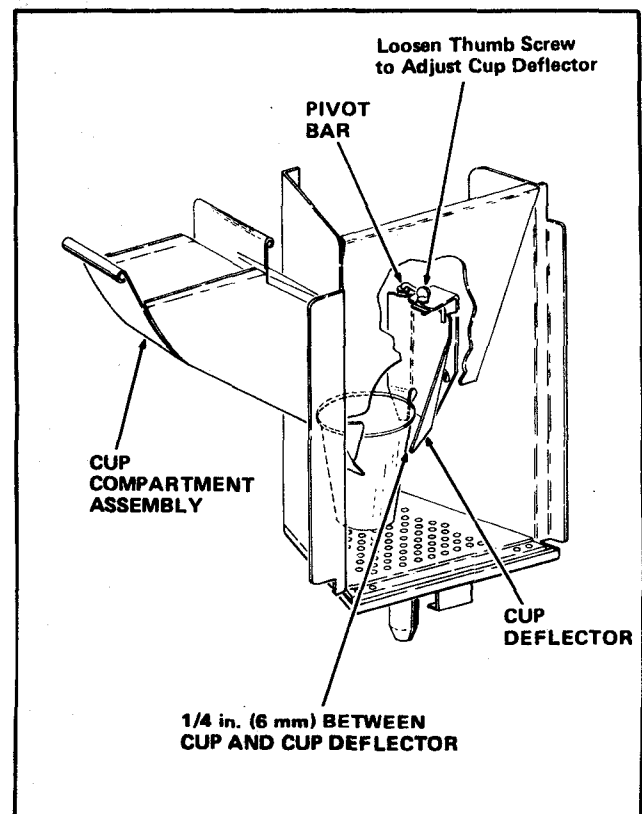

Figure 3-5. Adjustment of the Cup Deflector
- B. Loosen the thumb screw at the top of the Cup Deflector and move the Cup Deflector and Pivot Bar until the surface of the deflector is about 1/4 in. (6 mm) from the cup. See Figure 3-5.